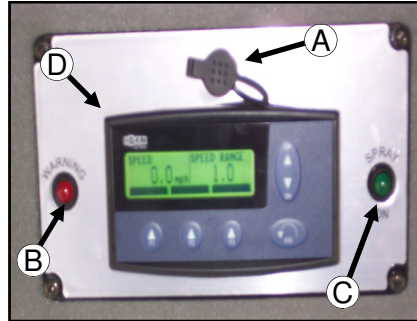

FIG. 25-1
**HAGIE DIAGNOSTIC PORT**– The Hagie diagnostic port (fig. 25-1, item A) is used for diagnostic purposes only. The Hagie Customer Service department can hook into your system to gather information on faults and malfunctions of the machine. From this port, they would also be able to reprogram the machine if it becomes necessary. This port is not for the use of personal computers or personal digital assistants (PDA's).
**WARNING INDICATOR LIGHT**– The warning indicator light (fig. 25-1, item B) will come on if there are any malfunctions or faults in the systems monitored by the MDM. These warnings include, but are not limited to: engine oil pressure, oil level, hydraulic oil level, coolant temperature, battery voltage, and fuel level. An explanation of the fault will appear on the screen. If a fault appears, shut engine off immediately and resolve the fault before continuing. Failure to do so may result in damage to the system with the detected fault.